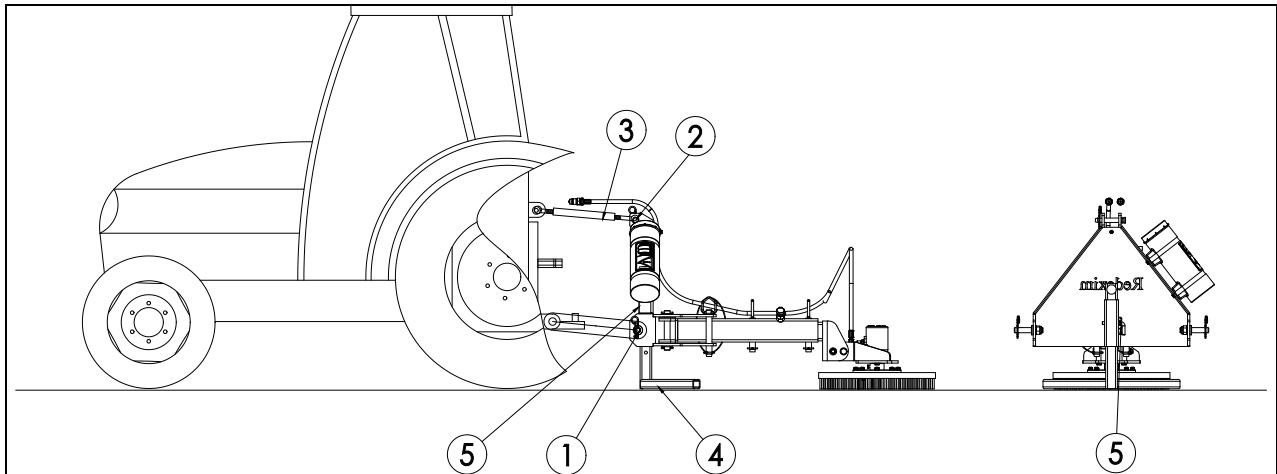

Figure 7
The procedure is as follows (Figure 7):
**Make sure that the top rod is attached and tensioned (see Figure 7)!